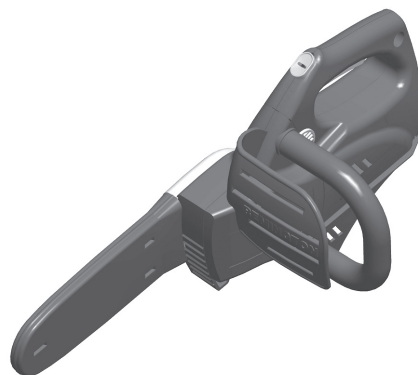

Figure 6 - Assembled Power Head Main Handle
2. Slide power head into main handle until units “snap” together (see Figure 6). **IMPORTANT:** Both release buttons on main handle must be fully engaged.